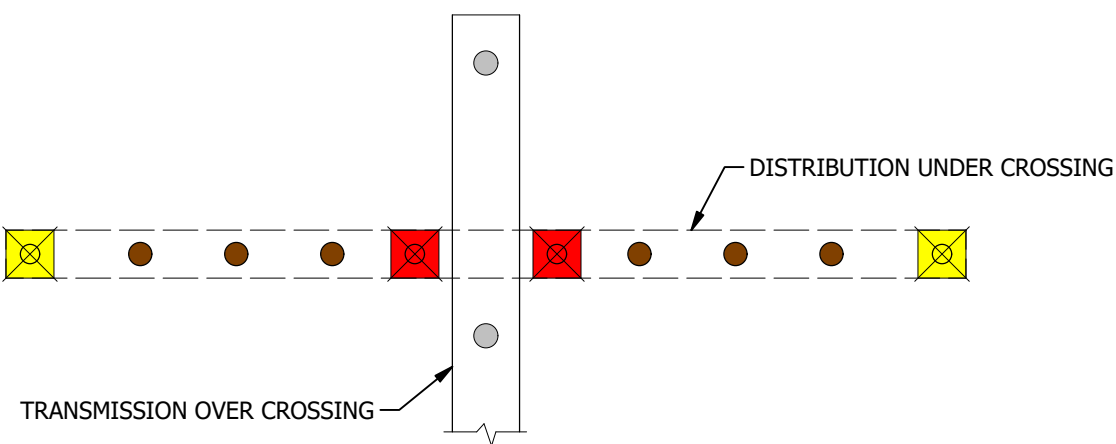

FIGURE 3
- A. CROSSING MARKERS TO BE PLACED ON POLE TOP. THE ORIENTATION OF THE CROSSING MARKERS SHOULD DISPLAY THE "X" AWAY FROM THE CROSSING. A WARNING (RED) CROSSING MARKER SHALL BE PLACED ONE SPAN LENGTH AWAY FROM WHERE A CIRCUIT/TRANSMISSION LINE CROSSES OVER THE TOP OF ANOTHER CIRCUIT/TRANSMISSION LINE. AN INDICATION (YELLOW) CROSSING MARKER SHALL PRECEDE A WARNING CROSSING MARKER BY UP TO FOUR SPANS, SEE FIGURE 3.